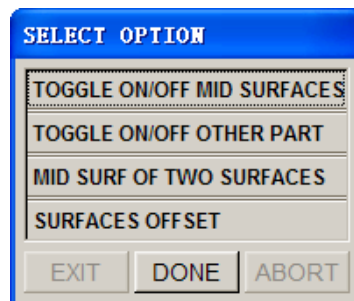

Figure 5.2.10 Select Options dialog box
3. After the mid surfaces are created, the SELECT OPTION dialog box as illustrated in Figure 5.2.10 shown will pop-up.